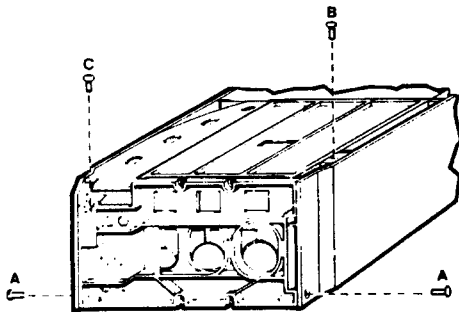

Figure 20: Removing Dispenser Screws
- Remove the four screws that hold the Dispenser in the Housing - two screws in the Housing side panels (A), one screw at the lower right-hand side of the Dispenser (B), and one screw in the top left-hand corner of the Bottom Plate (C) (Figure 20).